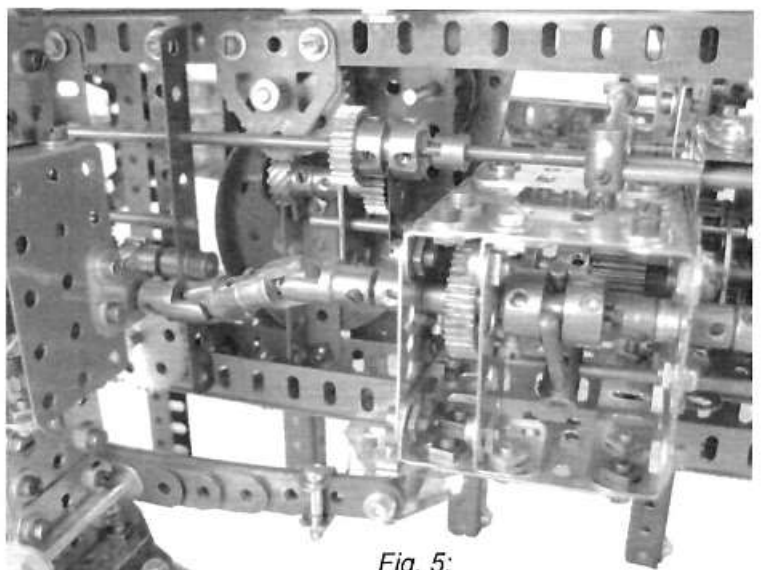

Fig. 5: Dog-Clutch drive to winch (top-centre). Helical drive to crane just visible bottom left. Transfer box at centre.
There is a very heavy-duty 15 Ton capacity horizontal winch under the tray, just behind the cab. This is also driven from the PTO, again by Helical gears, but has a free wheel devise to allow the cable to be pulled out manually. A Socket Coupling with half a Dog-Clutch and a gear in the other socket are used to engage the winch again from a lever in the cab, see Figure 5. Small Pulleys and rollers at the rear and front allow the winch to reel in disabled tanks, etc from the front if required. A ratchet brake is employed on the winch drum controlled by a hand-brake type lever to the right hand side of the driver's seat.
the slot uppermost. To the cylinder fit two Angle Brackets (12) to both sides using the central holes (Figs. 5 and 6). Inside the central holes the screws also hold a 1 " x $\frac{1}{2}$ " three hole Double Angle Strip (A548). This is spaced centrally by fitting a Nut (or Washers) between it and the fuselage on each side. This will hold the rocket motor in place (again if you do not have one it is not really necessary). The rocket motor (B090) uses the forward part of the two part plastic Jet Engine from the Space 21501 set or the Crazy Inventors sets. It is fastened in place by using a $1\frac{1}{2}$ " screw through the center of the jet engine and fastened to the center hole of the fixed three hole Double Angle Strip (A548).